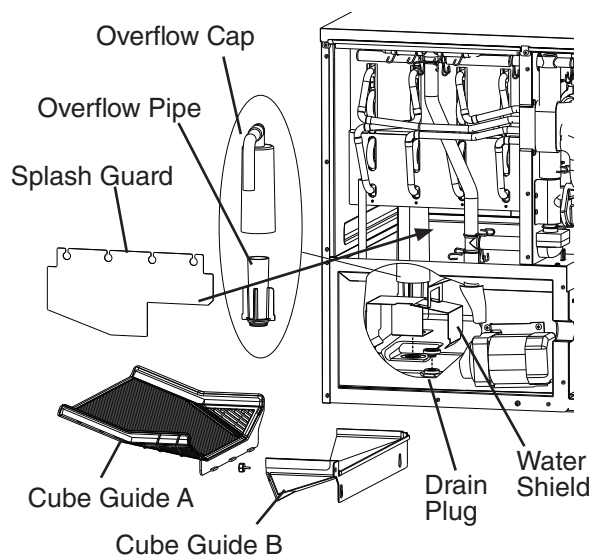

Fig. 15
- 7) Remove the insulation panel, then remove splash guard, cube guide B, and cube guide A. Next, remove the overflow cap, overflow pipe, water shield, and drain plug. See Fig. 15.